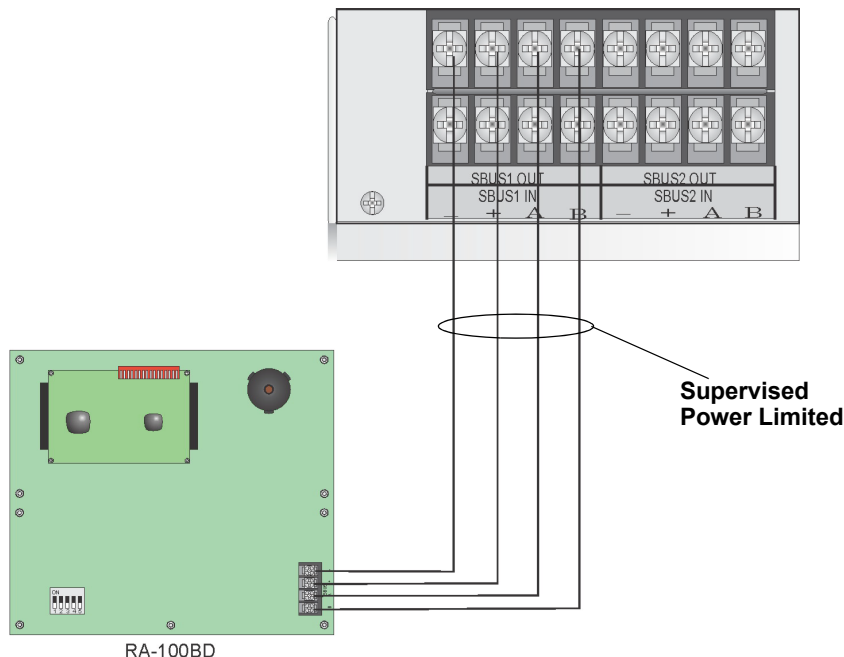

**Figure 4.29 Installing Trim Ring**
4. Place the trim ring over the backbox as shown in Figure 4.29.